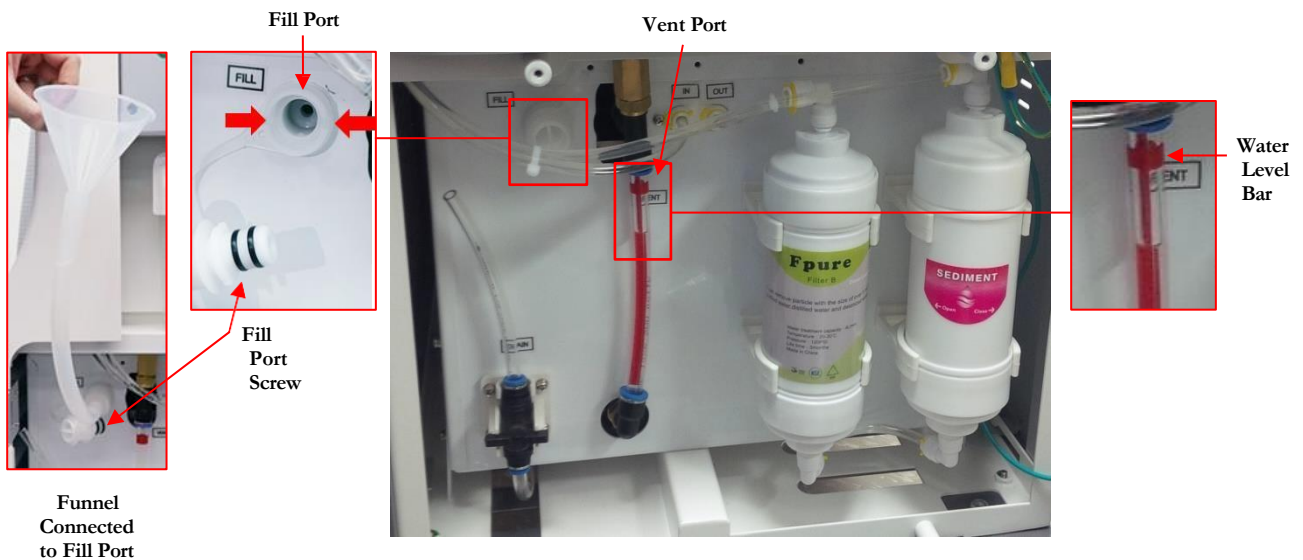

Figure 3.0-1: Filling the reservoir
2. Open the Fill Port (Figure 3.0-1) and connect the funnel, tightening by turning the funnel connector halfway clockwise